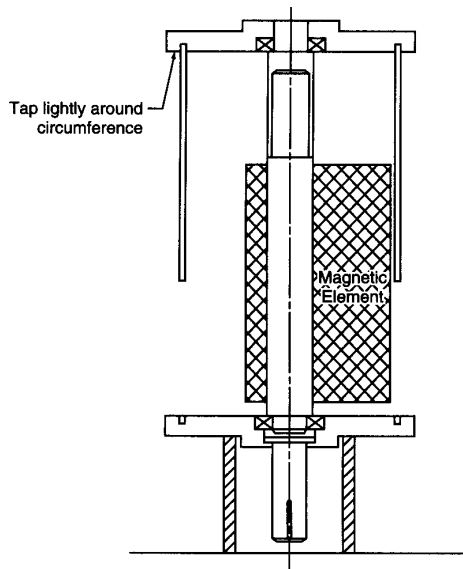

FIGURE 9
3. Tap underside of upper flange lightly until shell rim separates from lower flange, see Figure 9. Lift shell off (CAUTION: STRONG MAGNET). At this point the magnetic element will be exposed. It must not be tampered with in any way. Do not allow steel tools or other ferrous pieces to touch the magnetic element.